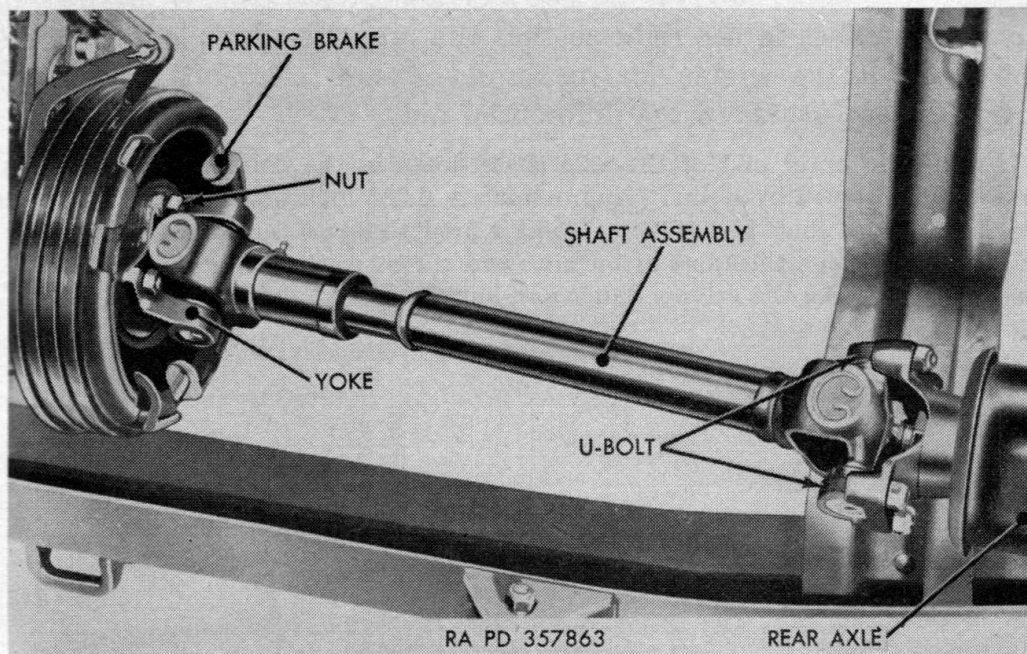

Figure 40. Rear propeller shaft.
*a.* DESCRIPTION. Two propeller shafts are used, one to drive each axle. Each shaft has a universal joint at each end and a splined slip joint at the end nearest the transfer (fig. 40).
The propeller shaft connecting the transfer to the front axle has U-bolt-type joints at both ends. The rear propeller shaft has a U-bolt-type joint at the rear axle and a snap-ring type (fig. 40) at the transfer end.
*a. FRONT PROPELLER SHAFT.* Disconnect the U-bolts at each joint (fig. 40). Push slip joint together to shorten shaft and remove propeller shaft.